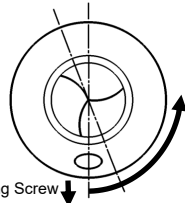

Fig. 4
- Remove locking screw from the bottom of the front cover. (Fig.4)
- Hold the main body, turn the front cover anti-clockwise. Note the front cover position for re-assembly purposes. Lift cover off. (Fig. 4)